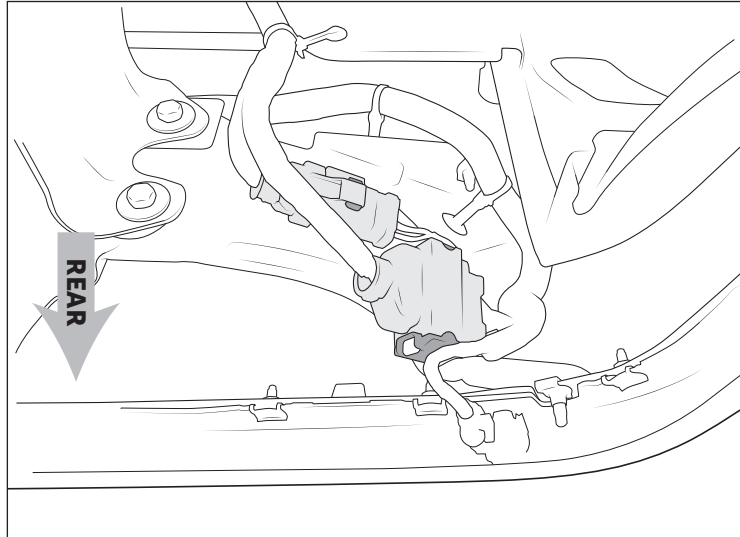

Figure 1
2. 2019+ Trucks, disconnect the two electrical connectors located on the driver's side of the bumper (fig. 1).